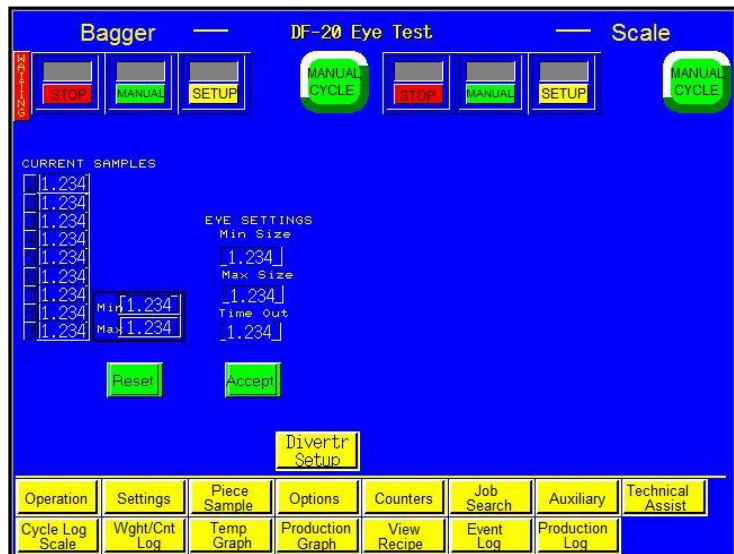

Figure 3-21
To ensure the accuracy of the count, an eye test must be performed. Press the **Eye Test** button to display the DF-20 Eye Test screen and perform an eye test. See Figure 3-21.
**Parts Length Test (Eye Test):** With the Part Diverter option turned on, press the **Reset** button on the Eye Test screen, See Figure 3-21. Toggle the **START / STOP** toggle button to **STOP**. Then, drop parts (samples) individually through the photo sensor / funnel. The Min and Max values at the bottom of the screen will change as parts are dropped through the eye. If parts will be fed automatically, parts should pass through the eye as they would if feeding automatically.